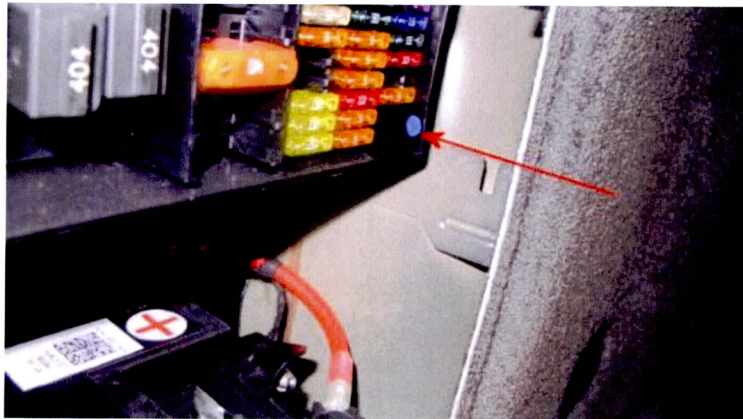

Figure 23
If the vehicle is not already listed as repaired in the "Repair history" (ElsaPro), check for the campaign identification mark, blue spot to the boot mounted fuse box adjacent to the main system battery positive post (see Figure 23), should neither be evident carry out the required work in accordance with these instructions
12. On completion apply a blue campaign completion mark (see Figure 23)
On completion apply a blue campaign completion mark to the boot mounted fuse box adjacent to the main system battery positive post (see Figure 23)